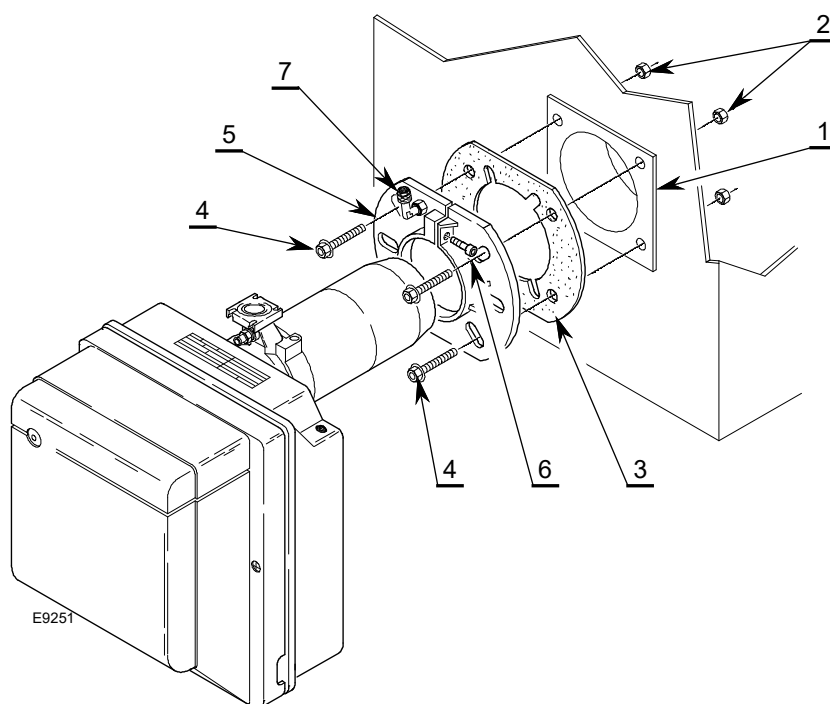

Fig. 10
- Put on the flange 5)(Fig. 10) the pressure test point 7) supplied with the burner.
- Fix the flange 5) to the door of the boiler 1)(Fig. 10) placing the insulating gasket 3) in between using the screws 4) and (if necessary) the nuts 2), but keeping one of the two top screws 4) loose.